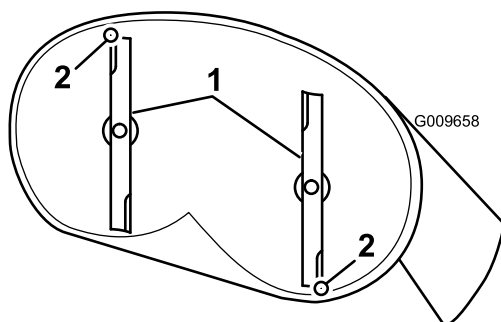

Figure 53
4. Carefully rotate the blades so they are facing front to rear (Figure 53).
5. Measure from the tip of the front blade to the flat surface and the tip of the rear blade to the flat surface (Figure 53). If the front blade tip is not 1/16-5/16 inch (1.6-7.9 mm) lower than the rear blade tip, adjust the front locknut.
8. After adjustment, check the front-to-rear slope again. Continue adjusting the nut until the front blade tip is 1/16-5/16 inch (1.6-7.9 mm) lower than the rear blade tip (Figure 53).